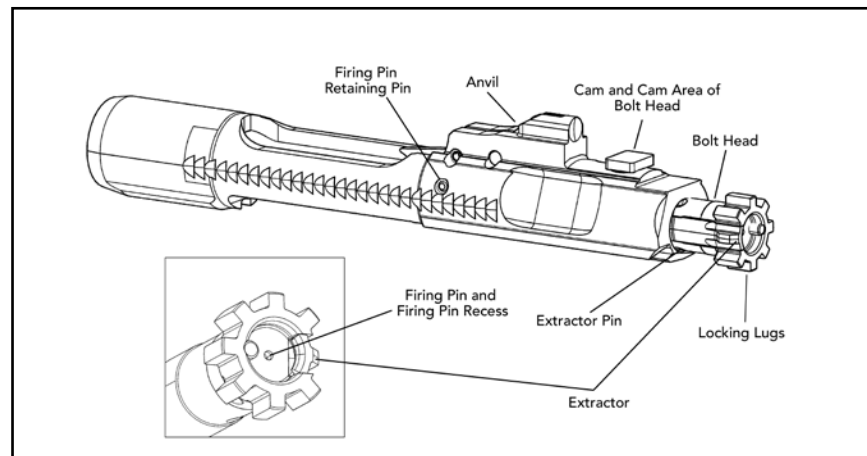

Fig. 57 – Lubrication of the MR556A1 Bolt Carrier Assembly
2. Apply a light coat of CLP extractor pin, the firing pin, firing pin spring, and firing pin recess in bolt (Fig 57).
3. Apply a medium coat of CLP to the extractor (Fig. 57).